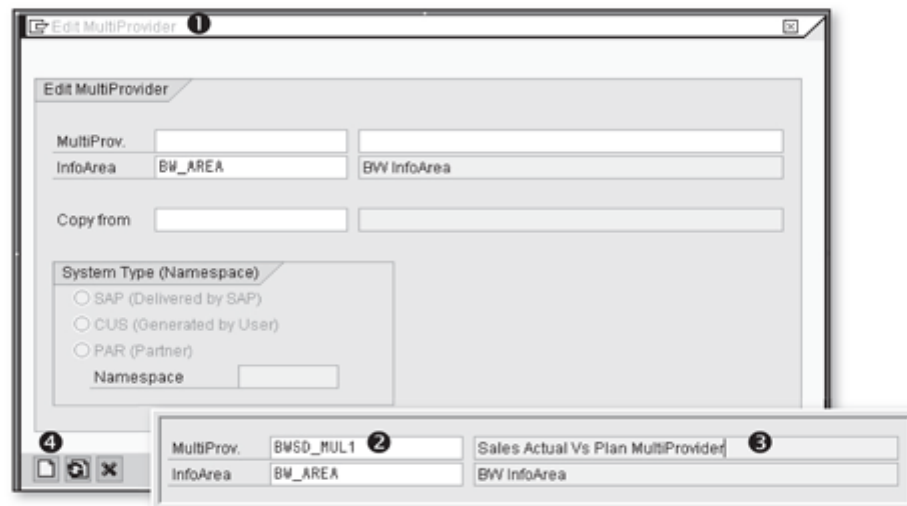

Figure 6.4 Create a MultiProvider: Adding Name and Description to a MultiProvider
The Edit MultiProvider pop-up box appears as shown in ❶ of Figure 6.4. You need to provide the unique technical name and description of the MultiProvider. Enter technical name "BWSD_MUL1" (❷). Provide the description "Sales Actuals Vs Plan MultiProvider" (❸). Click on the Create icon  (❹).